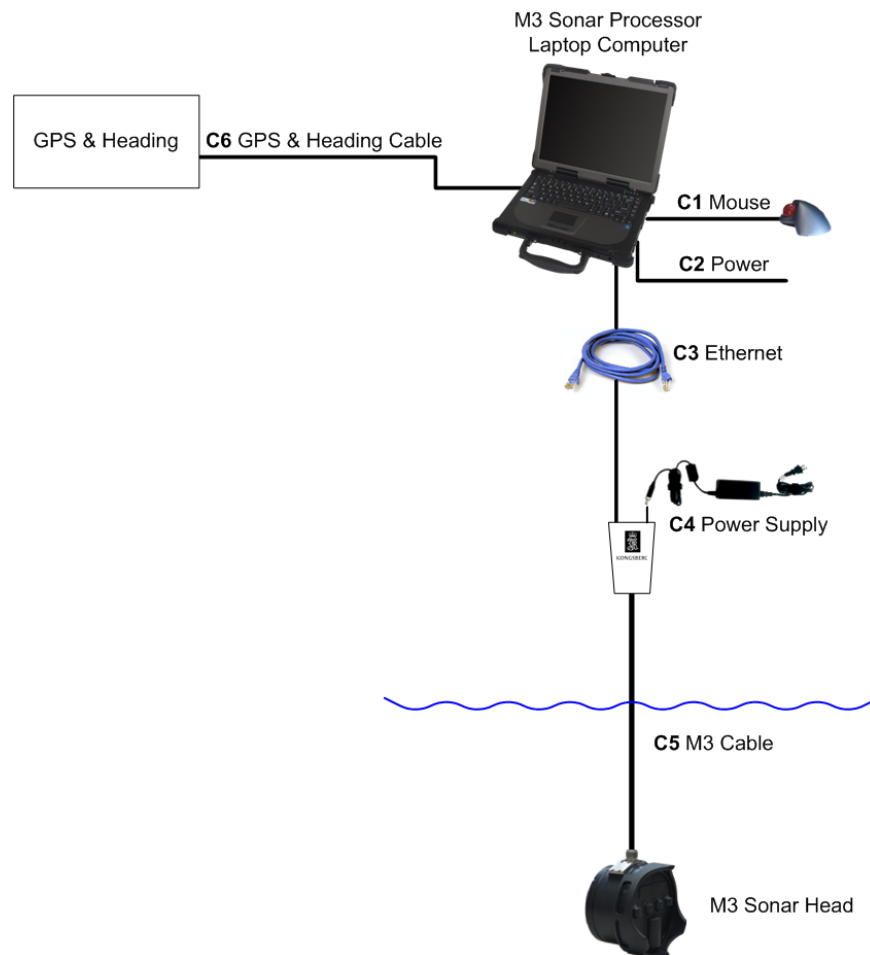

Figure 2. Basic M3 system components required system check
In addition to the basic components, a power supply is required to power the Sonar Head. Figure 2 shows the components required for operating the M3 System.
9. Connect the M3 system components shown in Figure 2 on page 10.